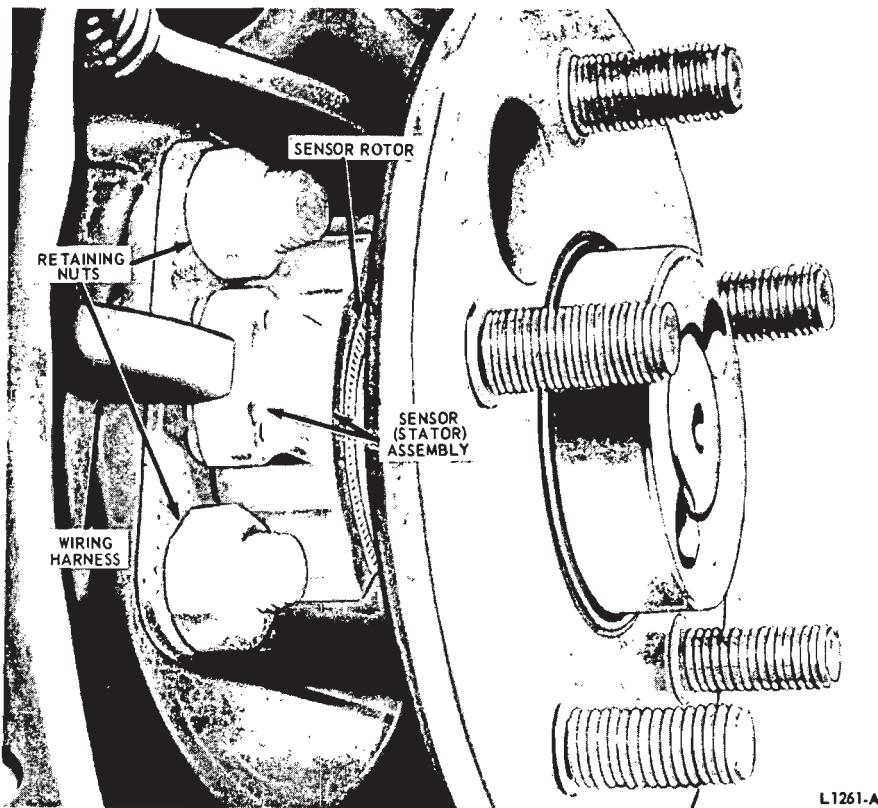
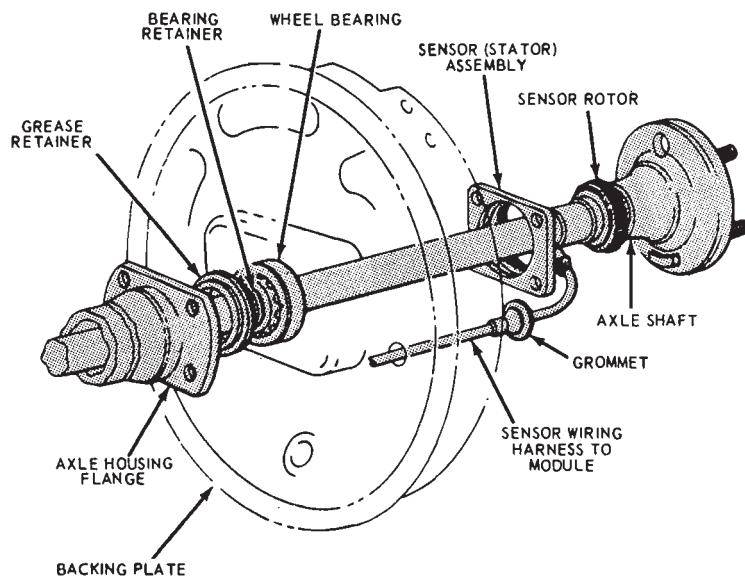

FIG. 14—Sensor Stator Assembled
FIG. 15—Sensor Assembly Disassembled
6. Remove the four nuts that retain the sensor stator to the backing plate (Fig. 14) and pull the axle shaft, sensor assembly and wheel bearing assembly from the axle housing (Fig. 15).
3. Insert the axle shaft assembly in the rear axle housing onto the four backing plate retaining bolts, feeding the sensor lead through the hole in the backing plate (Fig. 15).